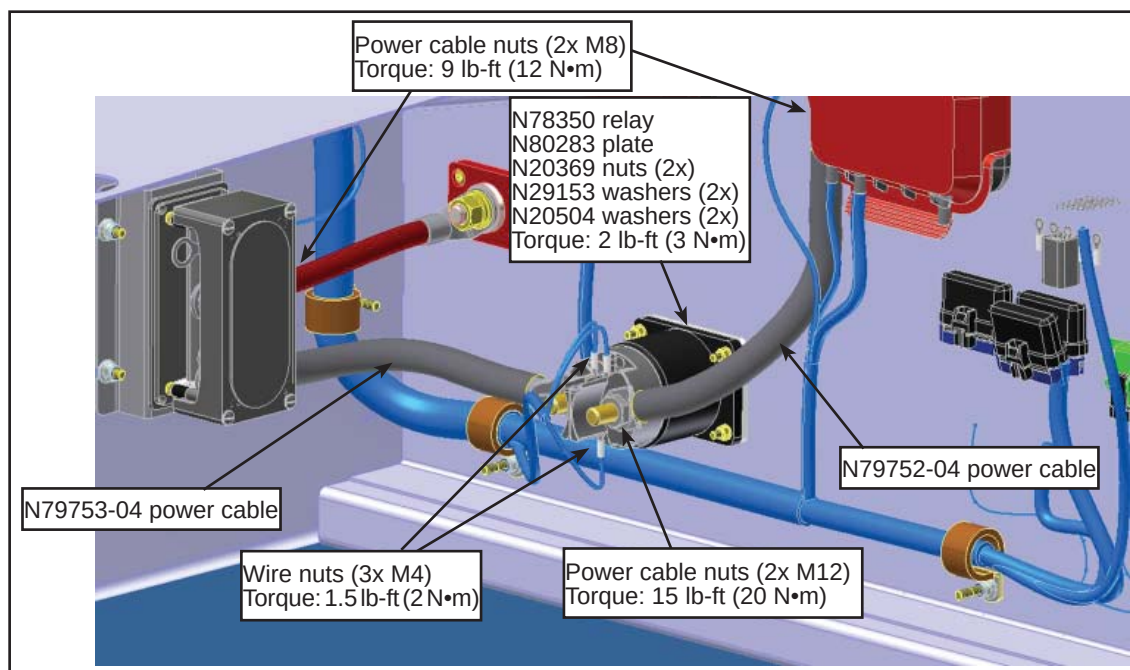

Figure 6 - Installation of New Parts from Relay Service Kit
- 1.14. Install the three wires on the relay, following the previously made identification marks. See Figure 6. Use the hardware included with the relay. Apply specified torque.